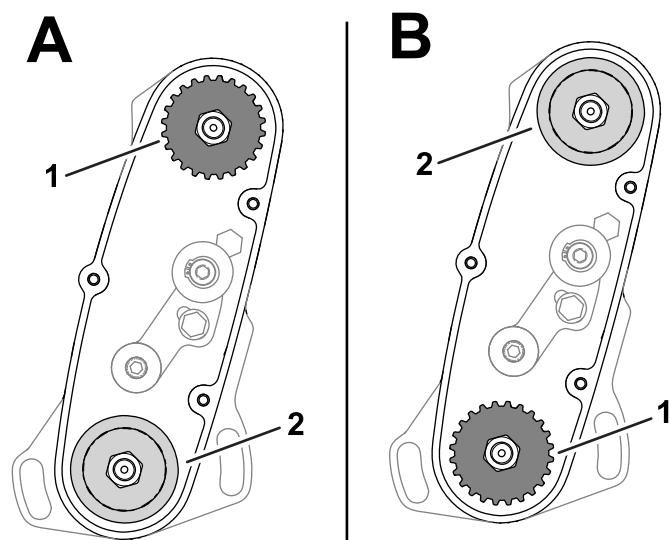

Figure 15
- **HIGH** position: "A" in Figure 15
- **LOW** position: "B" in Figure 15